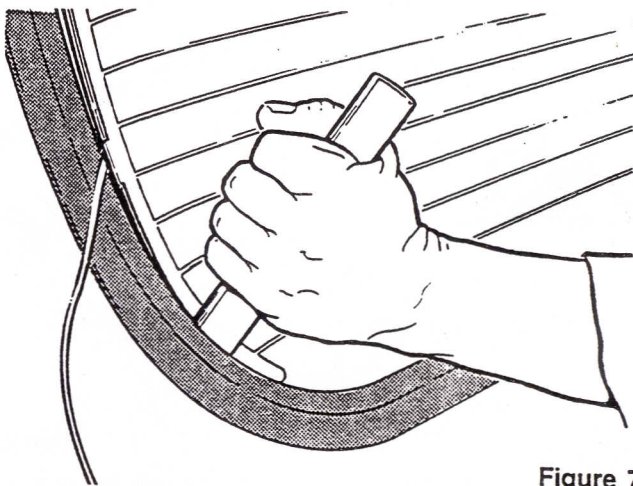

Figure 7
4. Offer up the windscreen and rubber surround and fit into position. See Figure 7